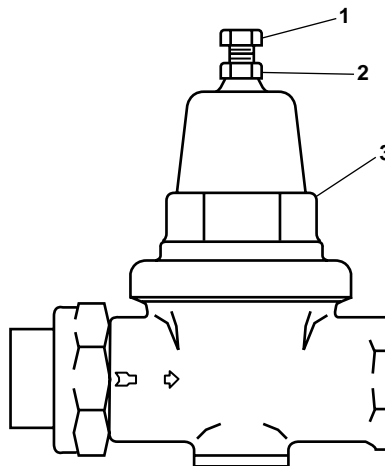

Figure 1. Compressed Air Regulator
2. Place one wrench on the adjusting screw (figure 1, item 1) to hold it stationary.
3. Use a second wrench to loosen the jam nut (figure 1, item 2).
4. To increase system pressure, turn the adjusting screw (figure 1, item 1) slowly clockwise. Stop turning the adjusting screw when the desired system pressure is attained.
5. To decrease system pressure, have one crewmember OPEN and CLOSE an air drain or operate an air component downstream of the pressure regulator (figure 1, item 3), and the second crewmember turn the adjusting screw (figure 1, item 1) counterclockwise until the desired air pressure is attained.
6. Use one wrench to hold the adjusting screw (figure 1, item 1) stationary while tightening the jam nut (figure 1, item 2).
7. After tightening the jam nut (figure 1, item 2), confirm that the system pressure has remained at the desired setting. If not, repeat steps 2 through 6 above.